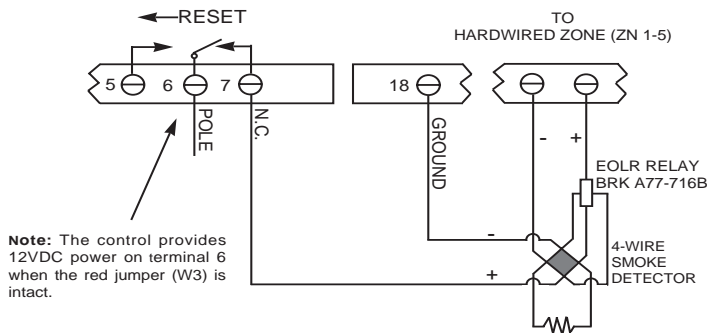

Figure 8: Wiring the auxiliary relay output for 4-wire smoke detector power usage.
- 4-Wire Smoke Detector Reset (*34 = 2):** Momentary (6 second) activation at second entry of User Code + OFF sequence which interrupts power to 4-wire smoke detectors connected to hard-wired zones (zones 1-5), allowing the detectors to be reset following an alarm . Power to 4-wire smoke detectors should be wired to the auxiliary relay as shown in Figure 8.